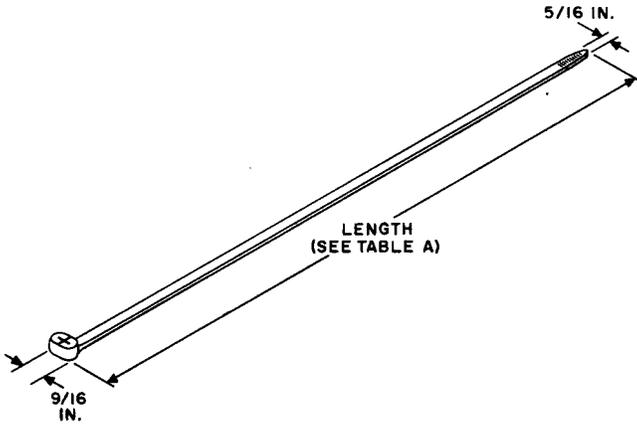

Fig. 3—C Lashed Cable Support
2.03 The C lashed cable support (Fig. 3) is a black molded nylon strap approximately 5/16 inch wide with a molded ratchet buckle on one end which is self-locking (hand or tool applied) and nonreleasable.